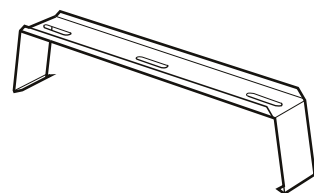

FIGURE 2. NOVA II IQFI fastening bracket (QFAZ-18-1-2)
- 1) Chilled beams shall be independently suspended from a suspension bracket by four (4) threaded rods of 3/8" diameter. (See **FIGURE 2**) The upper end of the rods shall be suspended from the structure above that is:
- 1) Fasten the fastening bracket into the ceiling. (See **FIGURE 2**)